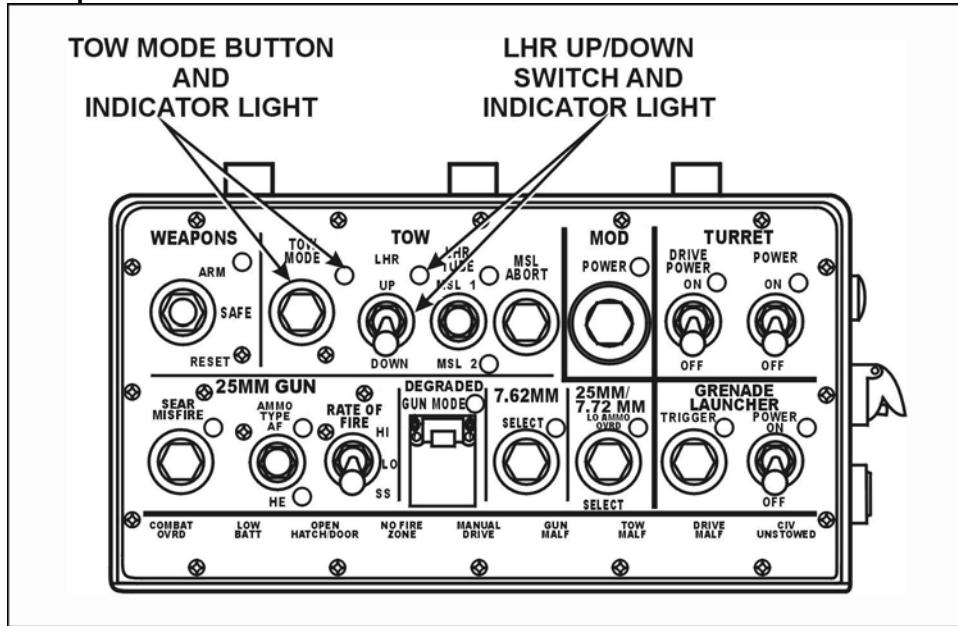

Figure 7. LHR UP/DOWN switch.
(1) Move the Launcher UP/DOWN switch to the UP position (Figure 7).